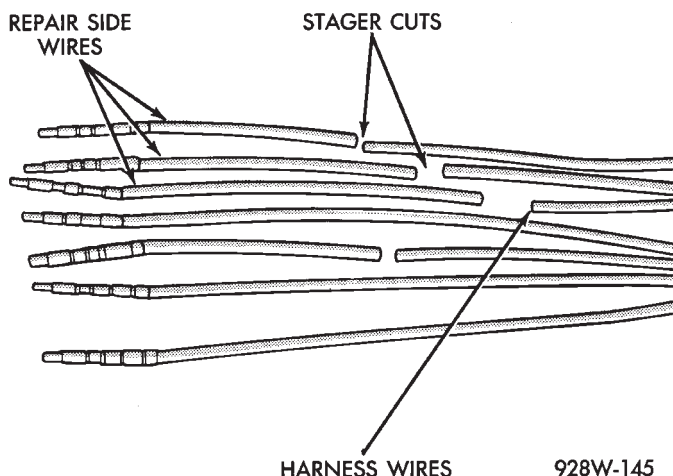

Fig. 18 Stagger Cutting Wires
- (1) Disconnect battery.
- (2) Disconnect the connector (that is to be repaired) from its mating half/component.
- (3) Cut off the existing wire connector directly behind the insulator. Remove six inches of tape from the harness.
- (4) Stagger cut all wires on the harness side at 1/2 inch intervals (Fig. 18).
- (5) Remove 1 inch of insulation from each wire on the harness side.
- (6) Stagger cut the matching wires on the repair connector assembly in the opposite order as was done on the harness side of the repair. Allow extra length for soldered connections. Check that the overall length is the same as the original (Fig. 18).